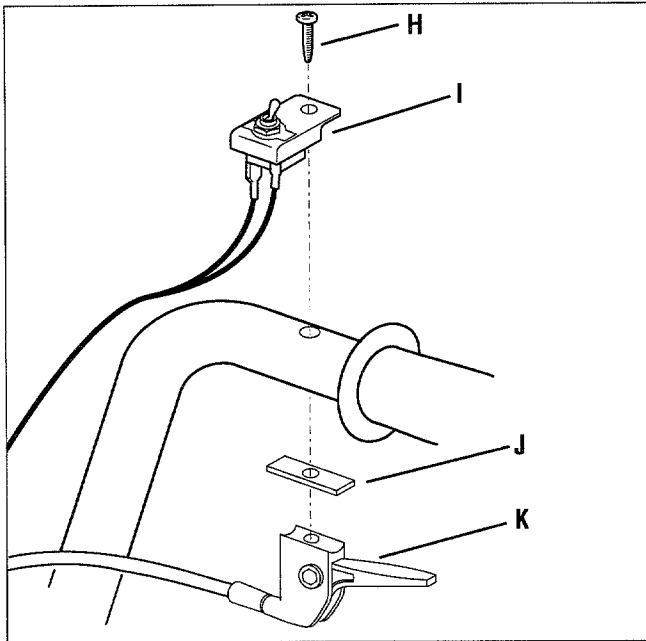

Figure 6: Installing engine On/Off switch and throttle lever assembly on right handlebar.
12. Insert the #10-16 x 1-1/2" long pan head Phillips screw (H, Figure 6) down through the hole in the engine ignition On/Off Switch bracket (I). Next, insert the screw through the hole in front of the right side handlebar grip. Note that the switch, wires and bracket are positioned to the inside edge of the handlebar.
13. Install the rectangular rubber spacer (J, Figure 6) on the screw and turn the spacer so that its long end points toward the grip.
14. Align the hole in the engine throttle lever assembly (K) with the end of the screw.